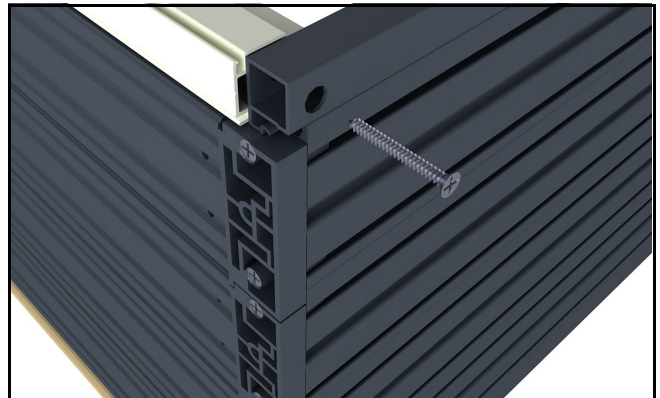

Figure 62
6. Fasten sill liner to frame cladding using #8 x 1 1/2" flat head screw. *Note: Ensure hole is line up with the screw boss in frame cladding.* See figure 62.